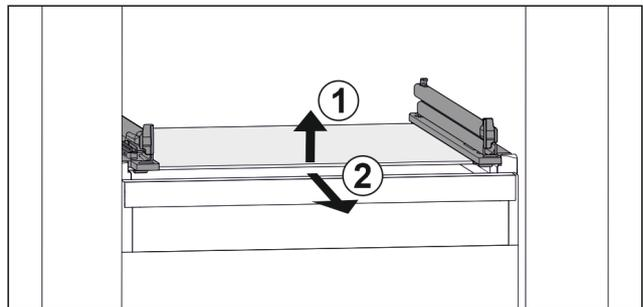

Fig. 26 Example illustration of glass shelf
- ▶ Lift glass shelf at the front. Fig. 26 (1)
- ▶ Take out glass shelf to the front. Fig. 26 (2)